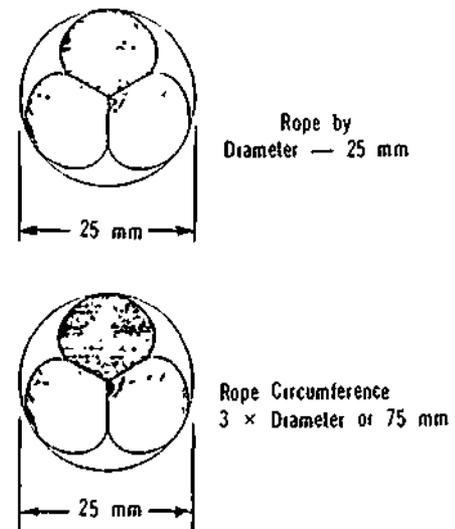

Figure 2-9. Example of Rope Circumference
c) Fibre rope is made from several different fibres—mainly hemp, sisal, jute, and cotton—in decreasing order of strength. Rope is measured either by diameter or by circumference. The circumference is generally considered to be three times the diameter. (See Figure 2-9.)